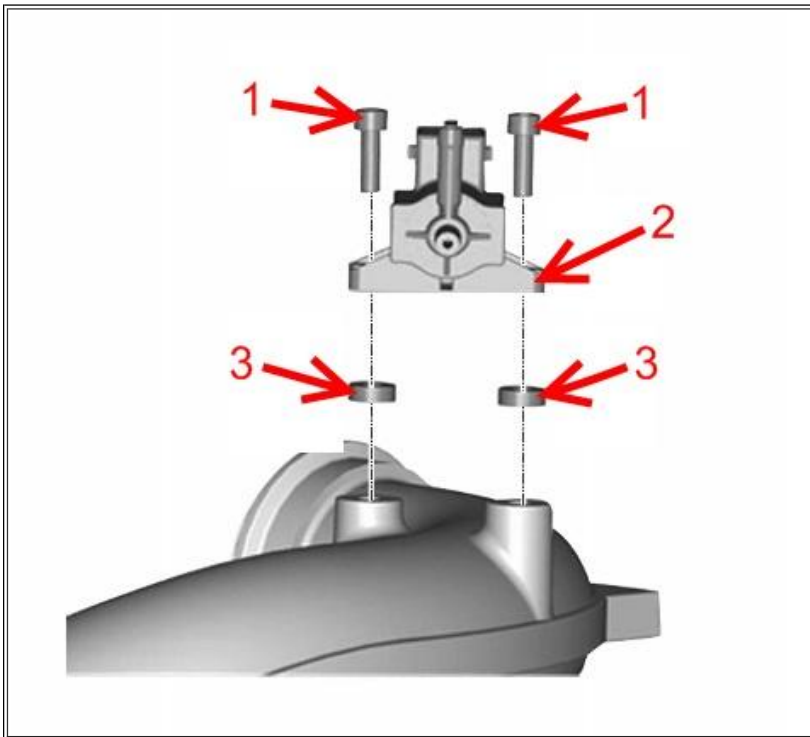

Figure 22: Turbocharger 2 Wastegate Control (TC2WC) Valve
22. Install TC2WC valve (**Figure 22**, Item 2) onto crossover tube with two insulators (**Figure 22**, Item 3) and bolts (**Figure 22**, Item 1).